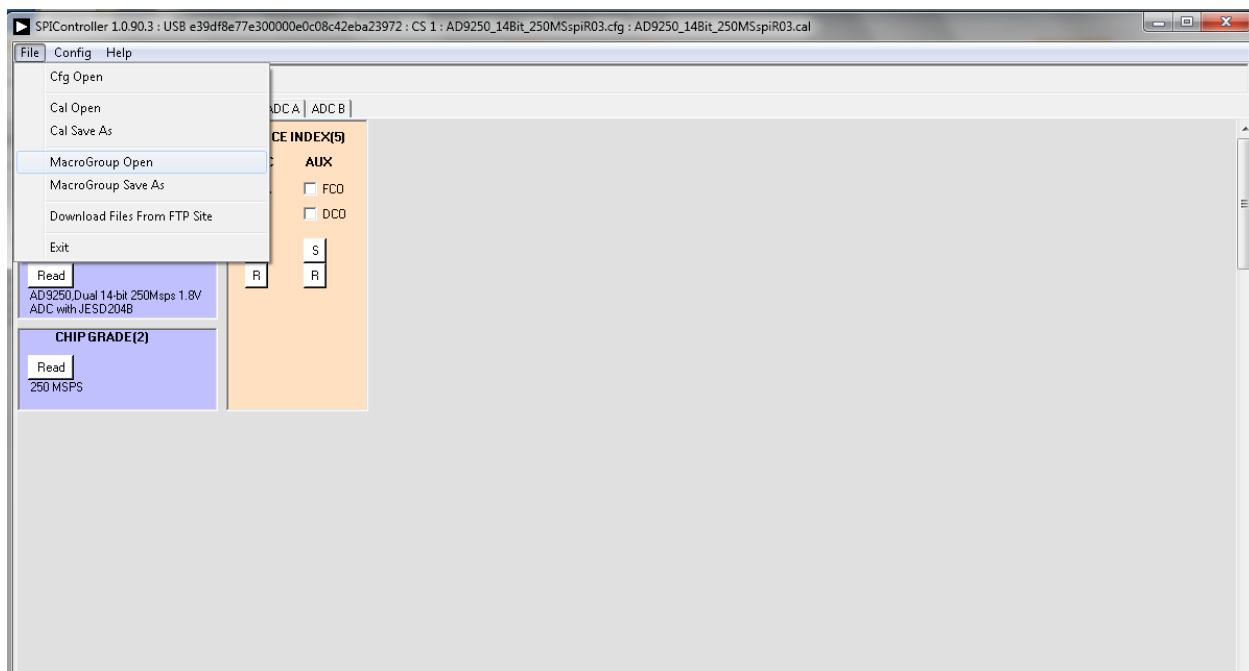

Figure 4. SPIController Software, MacroGroup Open
14. In the **SPIController** software, click **File > MacroGroup Open** (see Figure 4).